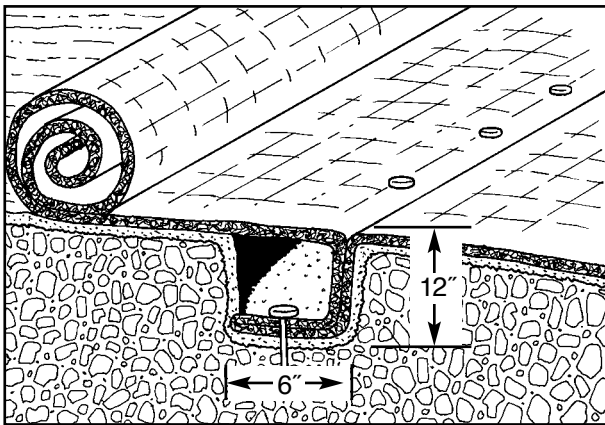

FIGURE 9 Intermittent check slot (channels)
- ▶ Fold and secure mat rolls snugly into intermittent check slots. Lay mat in the bottom and fold back against itself. Anchor through both layers of blanket or mat at 1 ft (300 mm) intervals then backfill and compact soil (Figure 9). Continue rolling upstream over the compacted slot to the next check slot or terminal anchor trench. Check slots are placed at 25 to 30 ft (7.6 to 9.1 m) intervals perpendicular to flow.